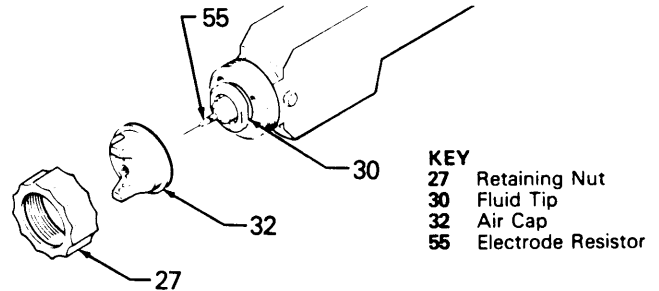

Fig 5
5. Remove the air cap retaining nut (27) and air cap (32). See Fig 5. With the wrench (83b) supplied, remove the fluid tip (30).
7. Screw the fluid tip back into the gun. Tighten the tip securely with the wrench (83b). Torque the fluid tip to 1.1 to 1.4 N-m (10 to 12 in-lb). See Fig 5.